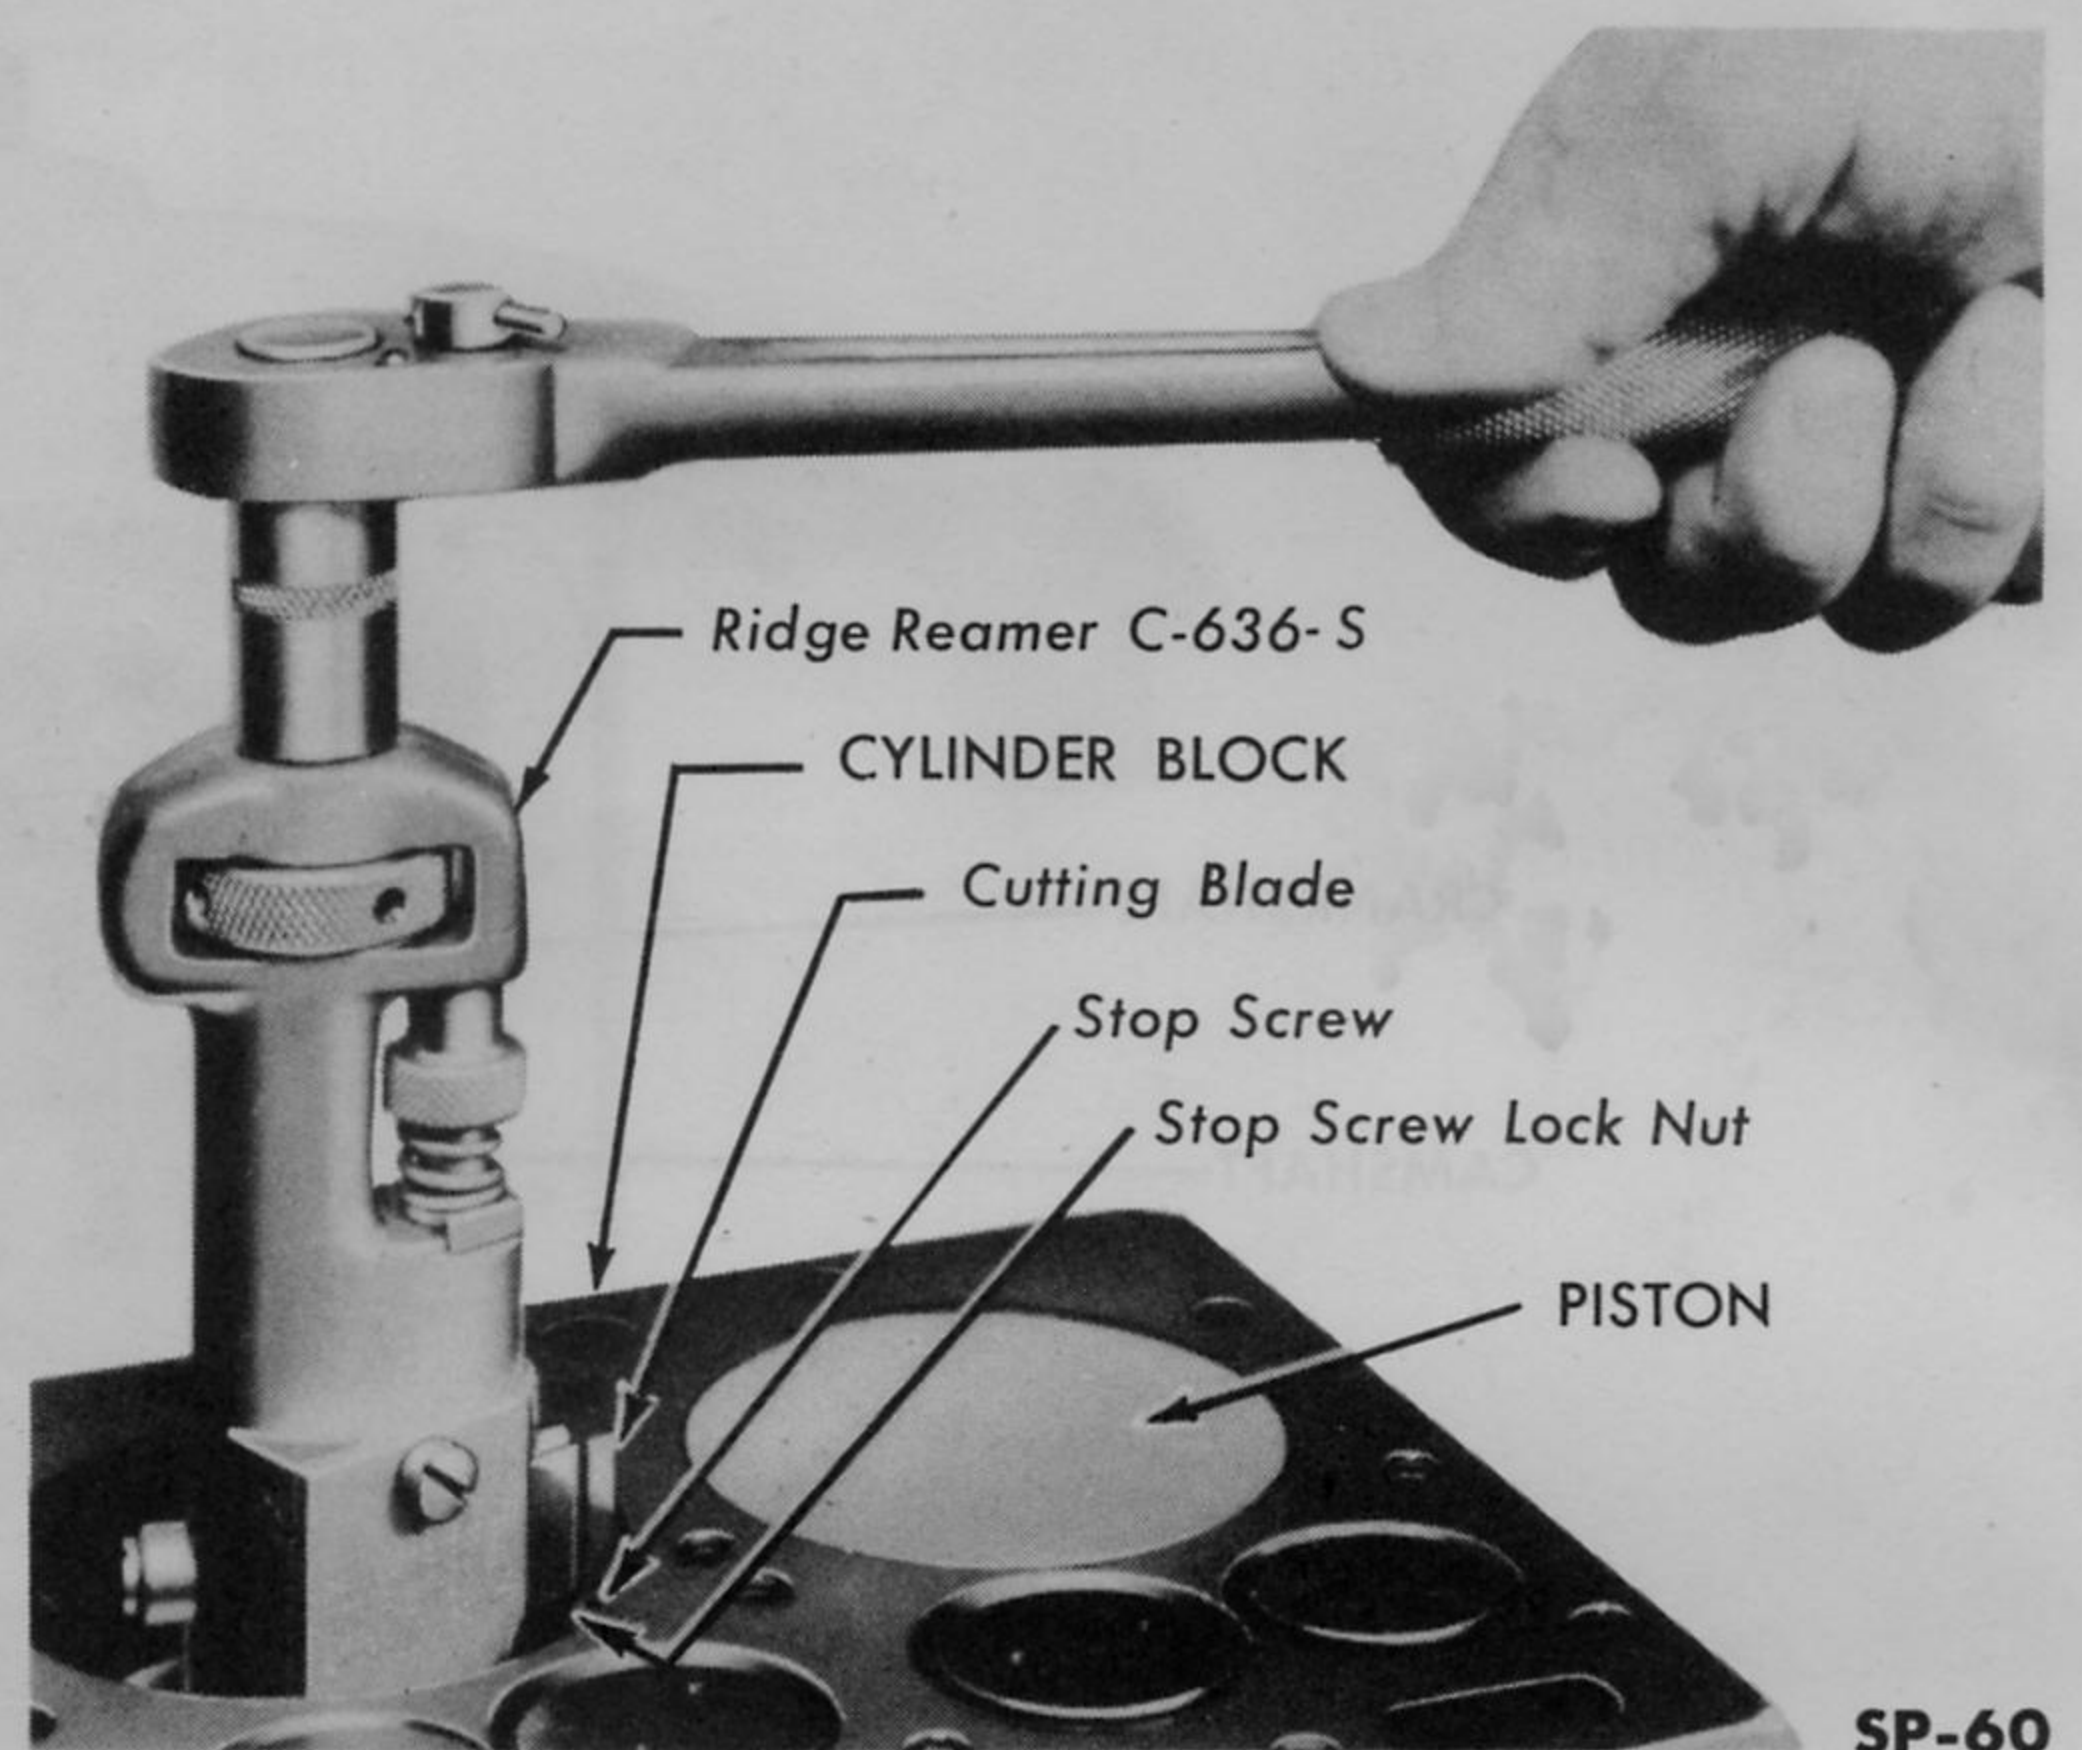

Fig. 20—Removing Ridge from Cylinder Bore
k. REMOVE PISTON AND CONNECTING ROD ASSEMBLIES. To prevent breaking the piston lands, the ridge at the top of each cylinder bore must be removed before attempting to remove the pistons. To remove the ridge, use Cylinder Ridge Reamer C-636-S (Fig. 20) according to the instructions furnished by the manufacturer. The portion of metal removed from the bore should not extend more than $\frac{1}{64}$ inch below the ridge.